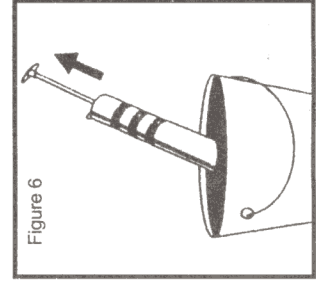

Figure 6
2. Submerge open end of the barrel into grease bucket. Be sure the plunger handle is depressed completely. Grasp the barrel firmly and pull back slowly on the plunger handle. Be sure the mouth of the barrel is always under the surface so that air is not transferred into the barrel. (Figure 6)